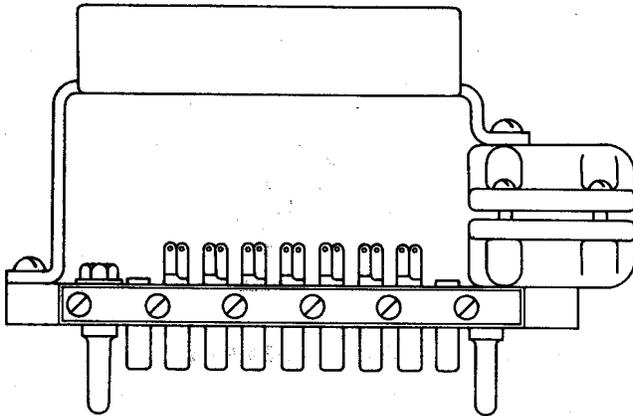

Fig. 1—300A Plug
2.01 **300A:** The 300A plug (Fig. 1) has four rows of seven insulated pairs of contact springs, and a wooden handle to facilitate removal of the plug from the jack. The 300A plug is used with the portable answering time recorder in conjunction with the 311 jack.